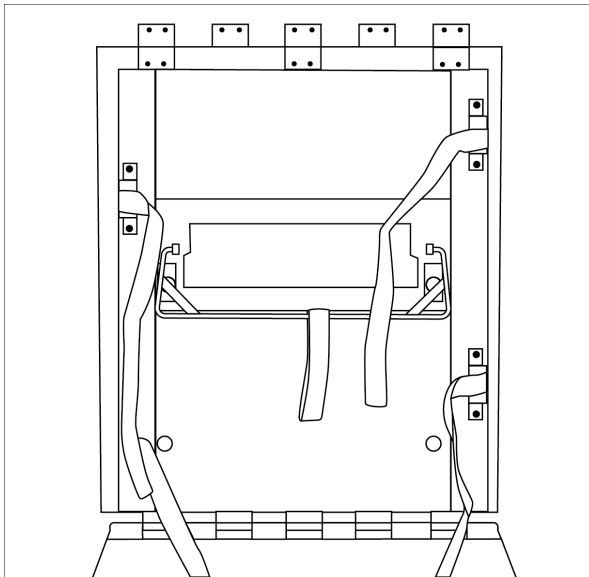

Figure 3-11. Straps for raising the lid of the ballot box
5. Raise the lid onto the top of the ballot box (with the straps inside) and ensure that it locks into place (Figure 3-11).